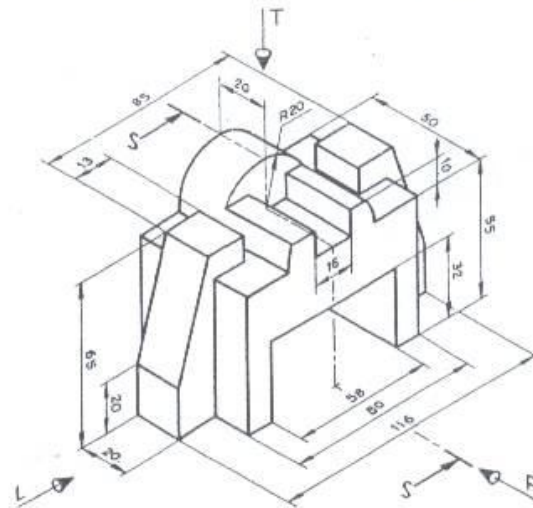

Fig 1(b)
- b. Draw the following orthographic views of the machine component shown in Fig.1(b)